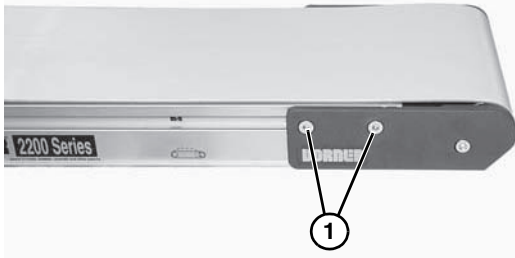

Figure 38
2. On one side of the conveyor, loosen two (2) head plate fastening screws (**Figure 38, item 1**) and remove.